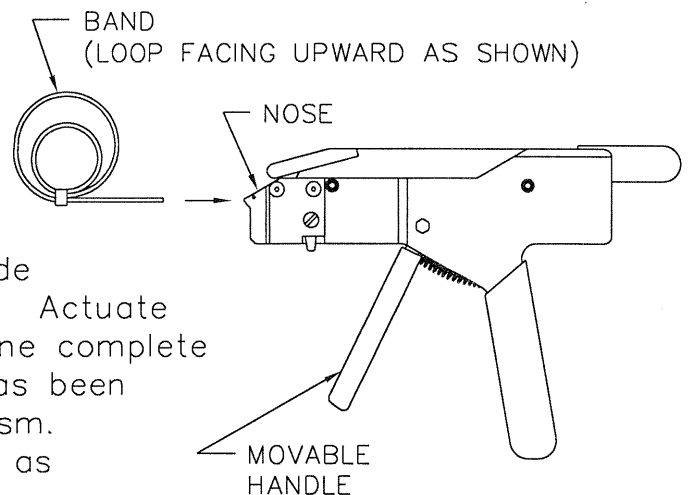
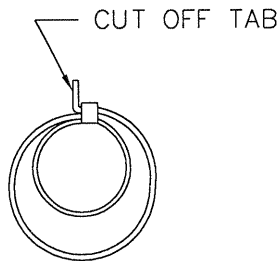
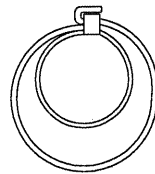

FIGURE 1
FIGURE 5
FIGURE 6
- 1.1 Insert the mechanical band into the DBS-1100 Banding Tool at least 1.75 inches, the band loop shall be oriented on the upper side of the tool's nose (see Figure 1). Actuate the movable handle of the tool one complete stroke to insure that the band has been captured by the gripping mechanism. The band must be double-looped as shown in Figure 6.
1.7 The cut off tab (Figure 5) must be rolled over 180° in a manner which will prevent slippage (Figure 6).